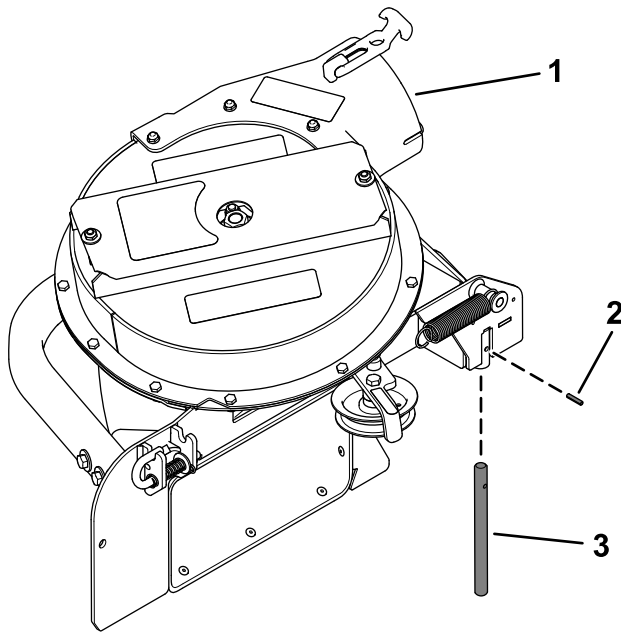

Figure 25
Verify that the pivot pin is secured on the blower assembly in the correct location (Figure 25 or Figure 26).
- If you have a **48-inch or 52-inch** mower deck, there is only a single hole to install the pivot pin (Figure 25).